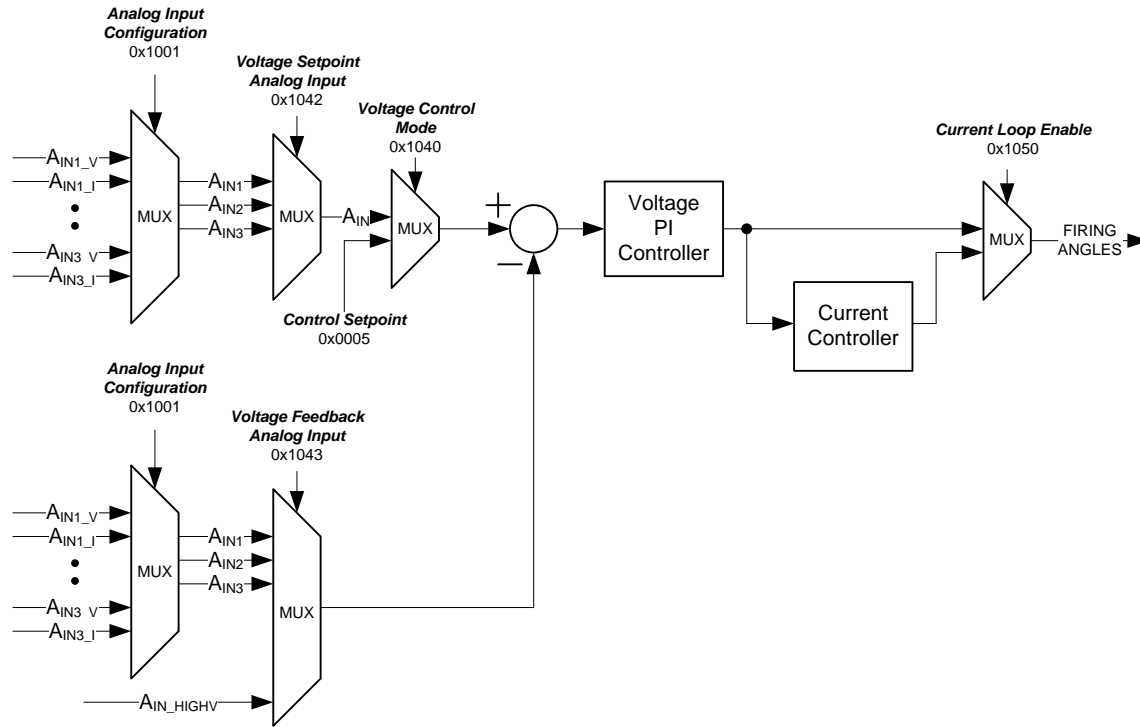
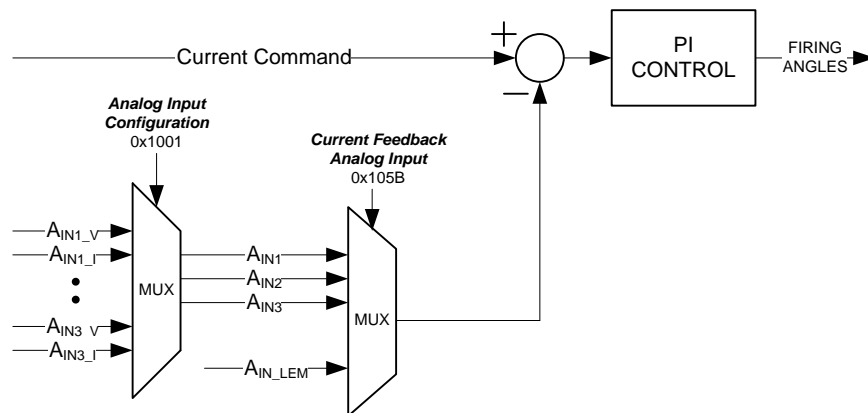

Figure 22 - Voltage Control Mode Block Diagram
Figure 24 - Inner Current Loop Block Diagram
The voltage controller is implemented as a classical Proportional plus Integral (PI) controller. All the PI controller gain settings are configurable using the Modbus interface. To facilitate in-system loop tuning, the controller gains may also be dynamically adjusted using the **Voltage Controller Kp/Ki Scaling** command registers (0x000E/0x000F). In addition, the voltage controller can be configured for multi-loop control using an inner current controller. Figure 22 provides a block diagram of the voltage mode controller. Figure 24 provides details on the voltage PI controller and Figure 24 illustrates the inner current controller implementation.